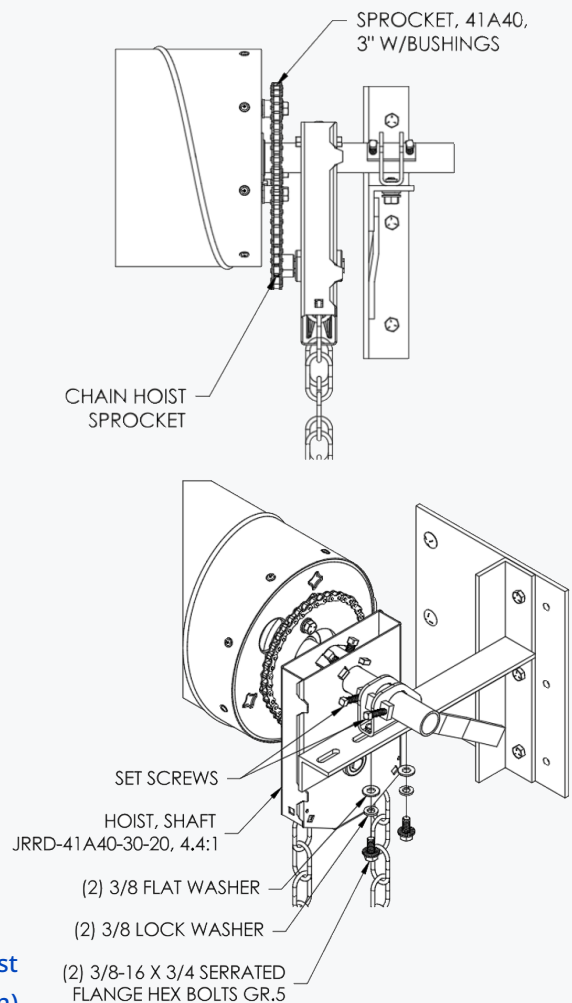

figure 14: Securing Stamped Axle Support w/ 4.4:1 Chain Hoist
- ✦ Attach Stamped Axle Support to T-bracket using (2) each 3/8-16 x 3/4 serrated hex bolts, 3/8 lock washers and 3/8 flat washers. See Figure 14.